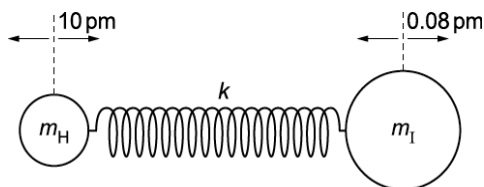

Fig. 3.2
- Fig. 3.2 shows a simple mechanical model of the molecule consisting of two unequal masses connected by a spring of force constant  $k$  and negligible mass. The ions oscillate in simple harmonic motion when disturbed.